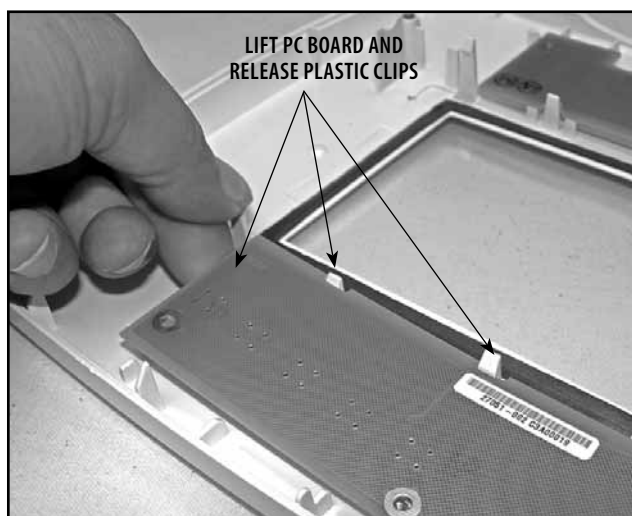

FIGURE 6.32
5. Starting at the top of the Keymat PC Board, lift board with one hand, push in and release the plastic clips holding the Keymat PC Board in position. See Figure 6.32.